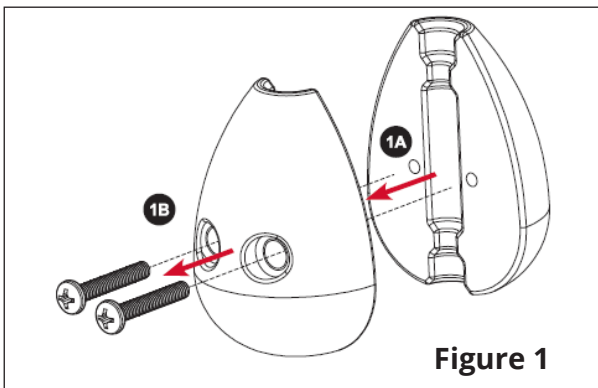

Figure 1
1. The cable weight consists of two halves, remove the two screws until they release from the screw holes and pull directly away (Figure 1).